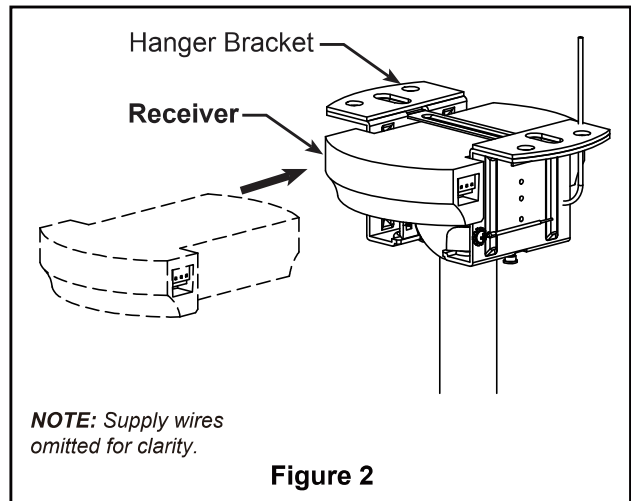

Figure 2
- 1. Slide the receiver into the hanger bracket with the flat side up towards the ceiling, as shown in figure 2.